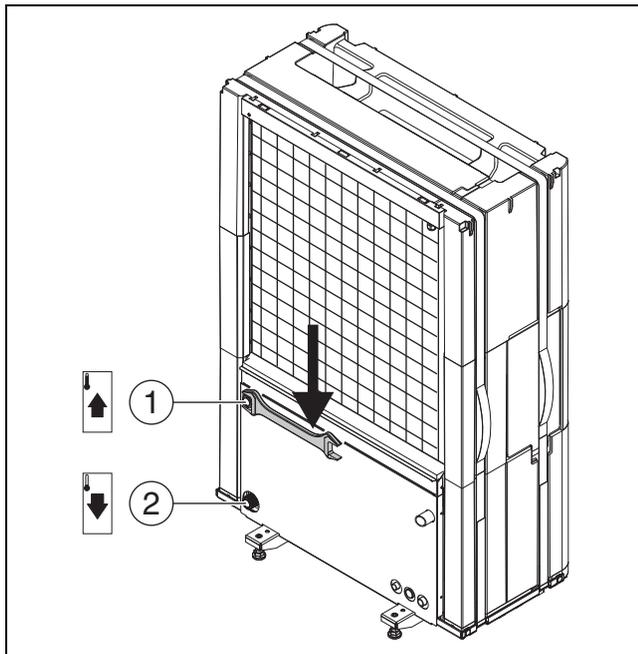

Fig. 17 Connections of heat carrying medium pipes, valid for all sizes
- ▶ Connect flow to the indoor unit at the heat transfer medium outlet of the heat pump (→ [1], Fig. 17).
- ▶ Connect return from the indoor unit at the heat transfer medium inlet of the heat pump (→ [2], Fig. 17).
- ▶ Tighten connections of the heat transfer medium pipes with a starting torque of 120 Nm. Direct the force downwards (→ Fig. 17) to avoid lateral loading of the condenser.